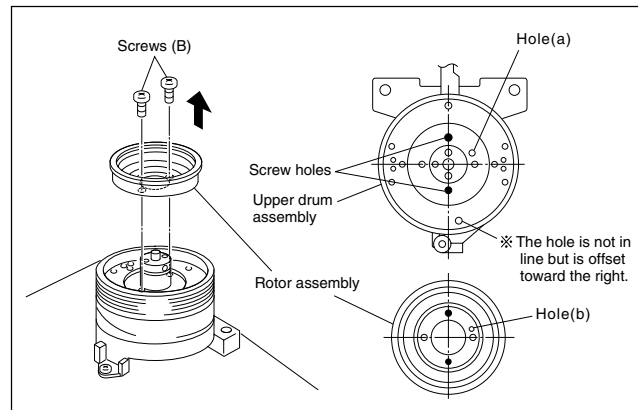

Fig.2-2-18a
- (1) Match the phases of the upper drum assembly and the rotor assembly as indicated in Fig.2-2-18a.
- (2) Place the upper drum assembly hole (a) over the rotor assembly holes (b) (with three holes to be aligned) and tighten the two screws (B). (See Fig.2-2-18a.)